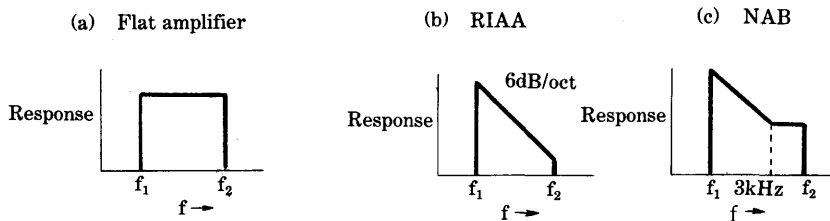

Fig. 18 Frequency response of wide-bandwidth amplifiers
From equations (22) and (25), the total noise figure  $NF_T$  of an amplifier, whose frequency response and bandwidth are as shown in Fig. 18(a), (b), and (c), can be obtained from the equations